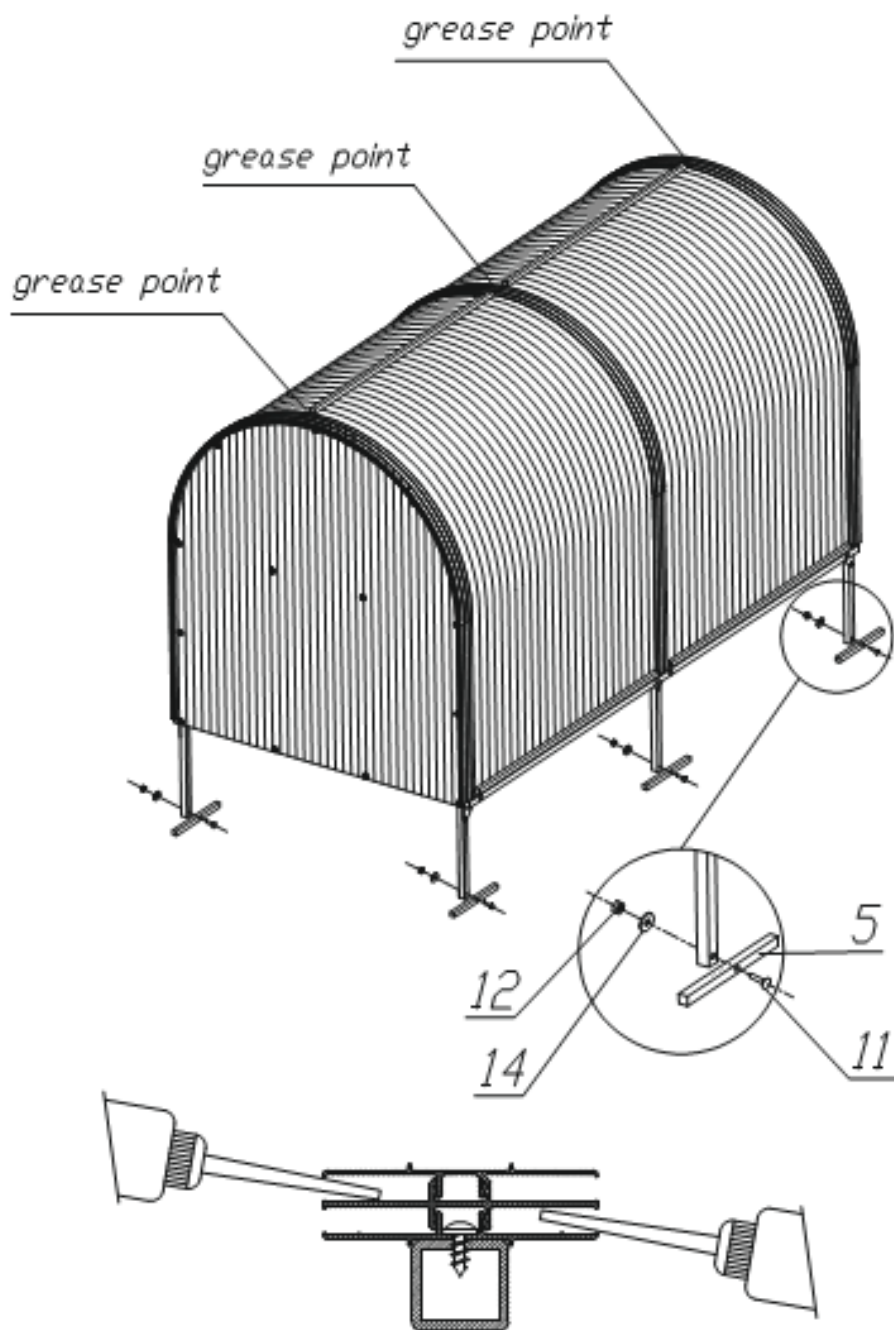

Fig. 18
6.4 In order that the polycarbonate moves easily along the profiles, it is recommended dripping some oil from the oiler into the profiles grooves (Position 22) (Figure 18).
7.1 Take the grouser-plank (Position 5), screw it to the arc base in the drilled holes using the M6x50 bolt (Position 11) with the washer and nut (Position 12, 14) (Figure 18).